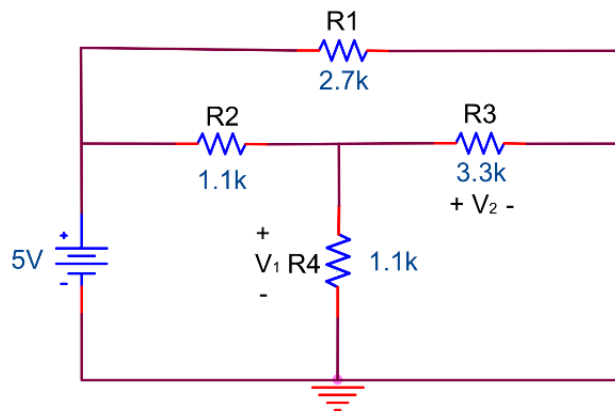

Figure 6.5
2. For the circuit in Figure 6.5, calculate V_1 and V_2 .